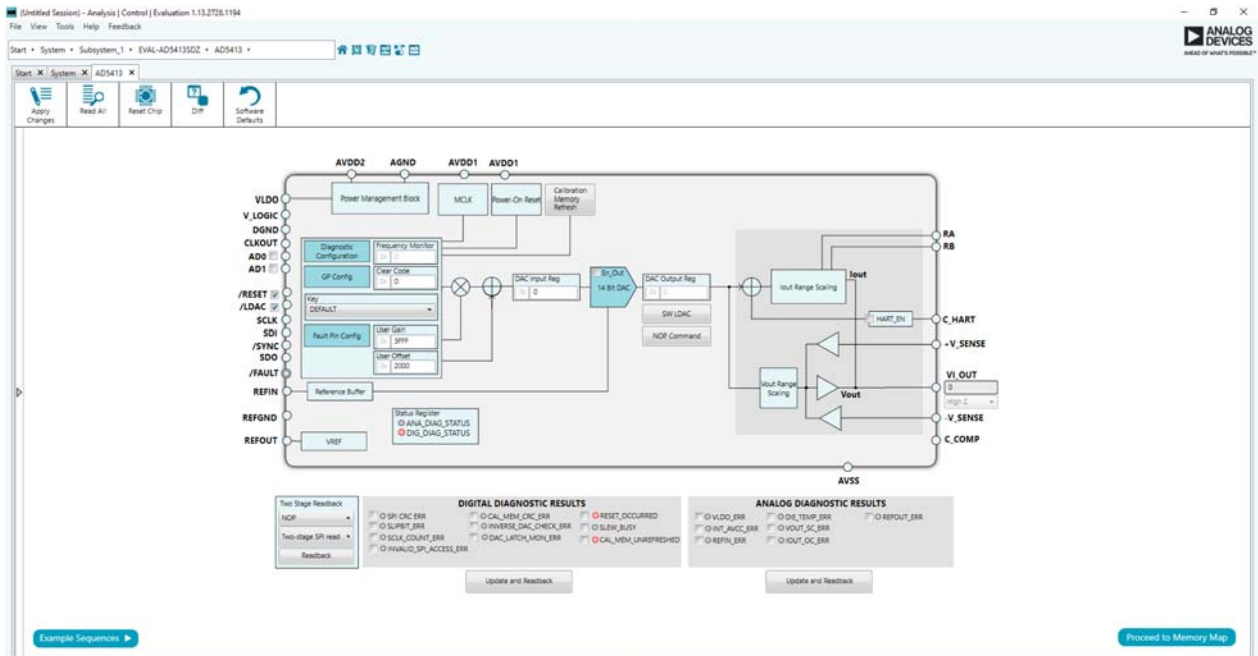

Figure 7. AD5413 Block Diagram in the ACE Software
8. Double-click **EVAL-AD5413SDZ** to open the **AD5413** block diagram (see Figure 7). The **INITIAL CONFIGURATION** window appears on the left side of the ACE window. Several register settings can be configured in this pane and are written to the device in the appropriate order. The **RESET\_OCCURED** and **CAL\_MEM\_UNREFRESHED** LED indicators in the **DIGITAL DIAGNOSTIC RESULTS** section are illuminated red by default (see Figure 7).